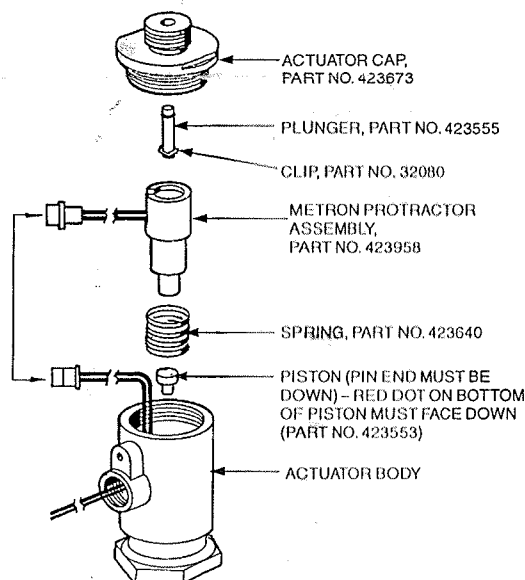

FIGURE 1
3. Unscrew actuator cap. See Figure 1.
4. Lift actuated METRON PROTRACTOR assembly housing out of actuator body and disconnect wire plug. See Figure 1.
7. Position METRON PROTRACTOR housing assembly back into electric actuator body, making certain METRON PROTRACTOR housing assembly and spring are properly seated in bottom of actuator body. See Figure 1.
8. Plug wire connector together. See Figure 1.
10. Make certain plunger moves freely up and down. See Figure 1.